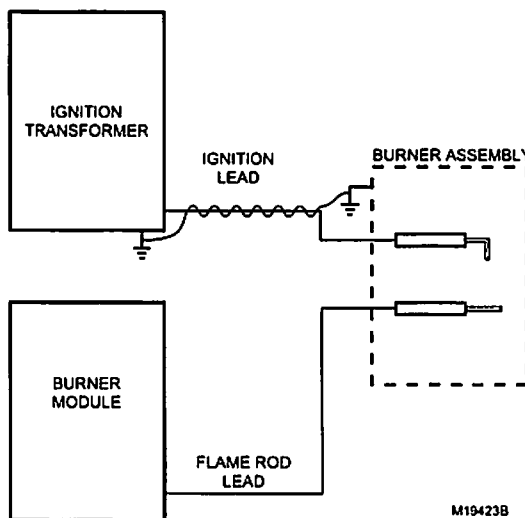

Fig. 13. Eliminating ignition interference.
6. Try wrapping the ignition wire with an insulated wire (No. 18 stranded, for example). See Fig. 13.